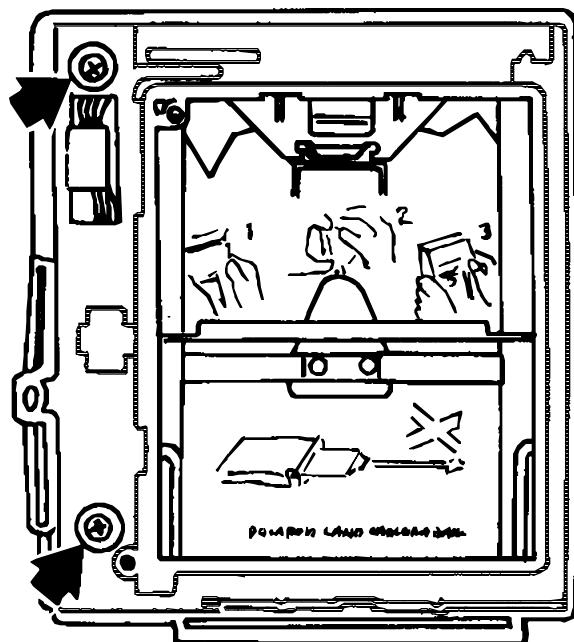

Figure 4-20 Removing Retaining Bracket Screws
9.2 Remove two screws from retaining bracket. (Fig. 4-20)